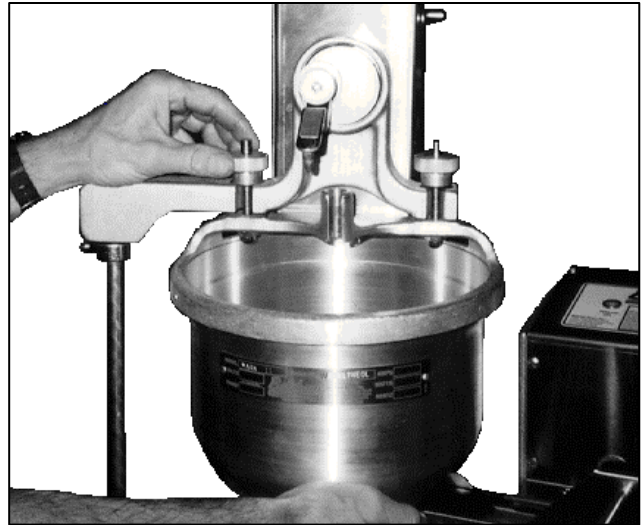

Figure 1-6. Mounting the Hopper.
2. Mount the hopper by sliding the two mounting studs on the hopper arch into the notches on the bearing strut. Secure the hopper with the thumbnuts. (See Figure 1-6.)